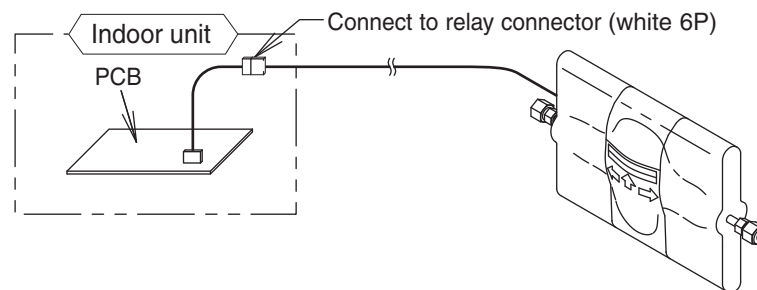

Fig. 3-176
- (1) Turn the power off.
- (2) Open the electrical component box.
- (3) Connect the external electronic expansion valve connector to the indoor unit control PCB (PMV). (Fig. 3-176)